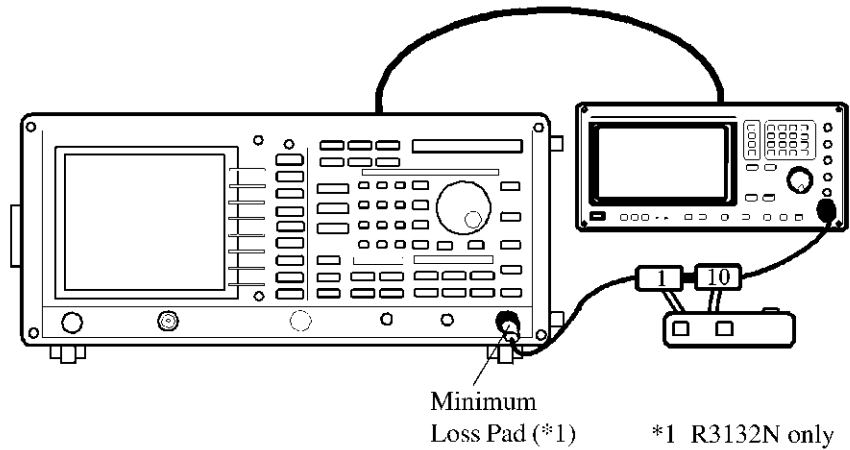

Figure 5-10 Setup of Scale Fidelity Test
1. Connect the step attenuators as shown in Figure 5-10.